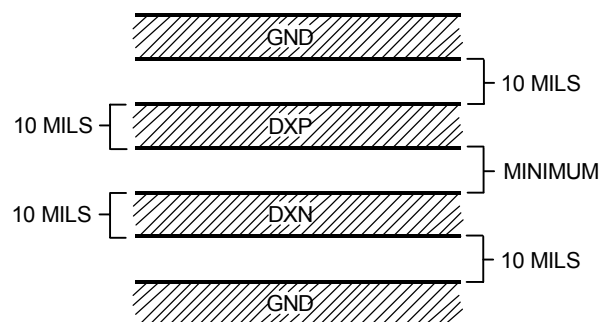

Fig 2 (b) Recommended DXP/DXN PC
Use wide traces. Narrow ones are more inductive and tend to pick up radiated noise. The 10 mil widths and spacing recommended on Figure 2 aren't absolutely necessary (as they offer only a minor improvement in leakage and noise), but try to use them where practical.
- **Fig 2(a) Connect the common DXN as close as possible to the DXN pin on IC.**